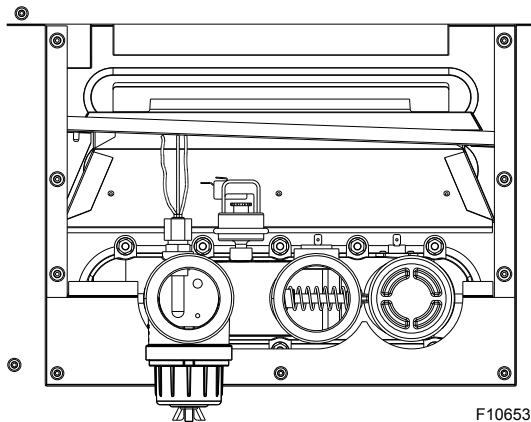

Figure 27. Component Wiring Locations - In/Out Header
2. Disconnect wires at high limit, AGS (automatic gas shut-off), water pressure switch on the in/out header, and ProTek Shield bonding wire. See **Figure 27**.
Re-attach the headers to the opposite sides, making sure they are installed in an upright position. Do not over-tighten. Torque should not exceed 7 ft/lb. See **Figure 27**.